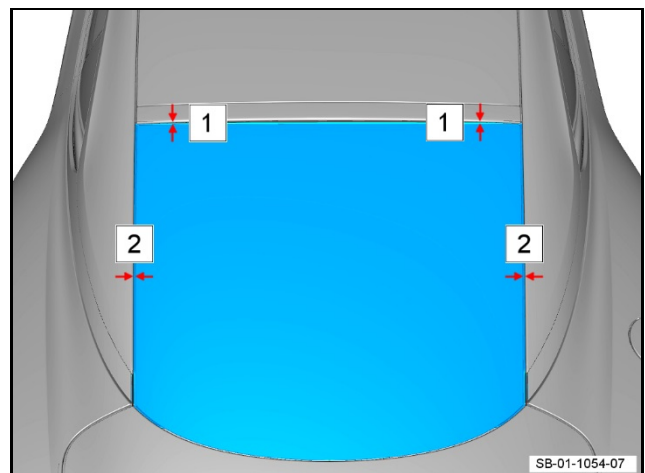

Figure 10
- The distance between the top of the windscreen and the high-mounted stop lamp cover (Refer to [1] in Figure 10) should be:
- The distance between the sides of the windscreen and the cantrail finishers (Refer to [2] in Figure 10) should be: